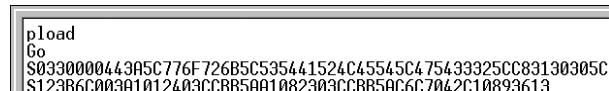

Figure 15. Upload Progress Display
7. Click **Open**. The firmware upload begins. If the HyperTerminal echo function is turned on, HyperTerminal displays a scroll of the text of the firmware file as it uploads to the switcher (figure 15).